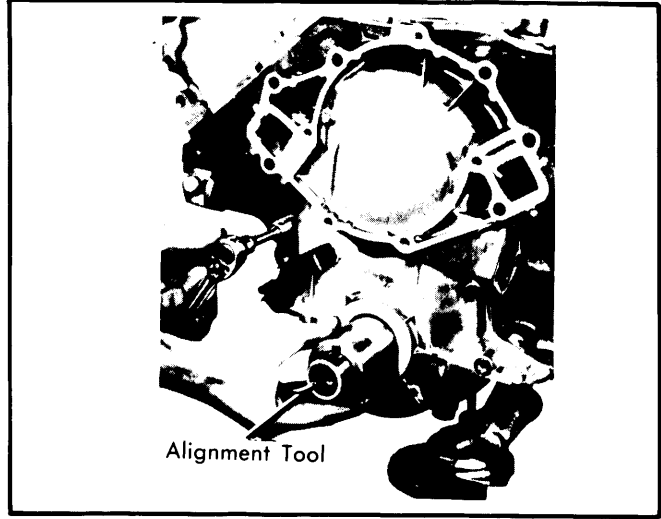

Fig. 14 Aligning Front Cover
2) Position front cover on cylinder block. Install front cover to seal alignment tool into proper position as shown in Fig. 14.